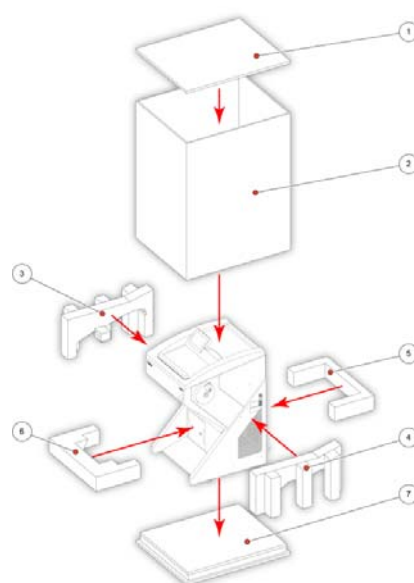
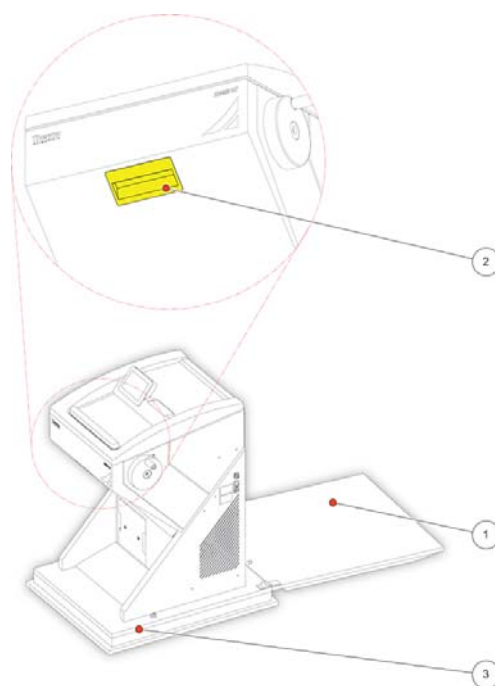

Fig 1
Fig 1a
- Remove the upper wooden cover (fig. 1) (item 1).
- Lift the packing over the instrument (fig. 1) (item 2).
The upper wooden cover now serves as a ramp (fig. 1a.1) on which the HM525 NX can be moved from the pallet to the floor by using the handle (fig. 1a) (item 2).
- The hinges of the upper wooden cover (fig. 1) (item 1) are inserted into the screws of the bottom plate (fig. 1a) (item 3). The correct side for this is marked with arrows.
- Turn the setting feet completely upwards via this tool so that the HM525 NX stands with its rollers on the bottom plate (fig 1a) (item 3).
- Via the handle (fig 1a) (item 2), roll the HM525 NX from the bottom plate (fig. 1a) (item 3) over the wooden cover (fig. 1a) (item 1). In doing so, the rear side of the instrument must face the incline (fig. 1a) (item 1).